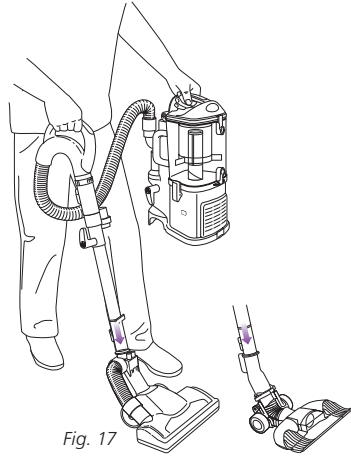

Fig. 17
- 2 Attach either floor nozzle onto the end of the extension wand. (Fig. 17)